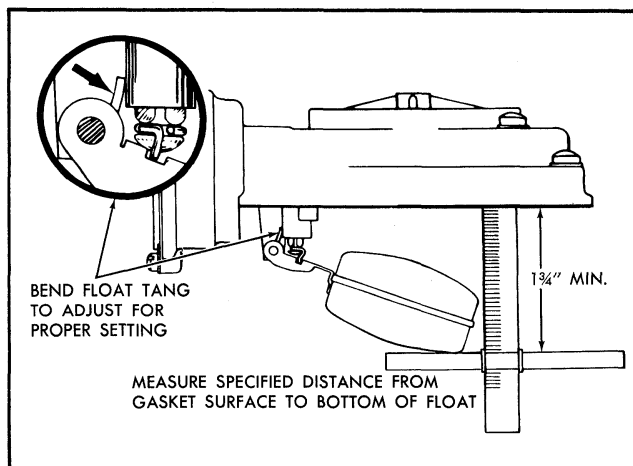

Fig. 6B-59 Float Drop Adjustment
16. Install fast idle link and fast idle cam as an assembly and install fast idle lever on other end of fast idle link. Place fast idle lever on choke shaft with the tank facing outward and toward the pump lever. Install trip lever so that tang of trip lever is under tang of choke lever, and install retaining screw (Figs. 6B-61 and 6B-62).